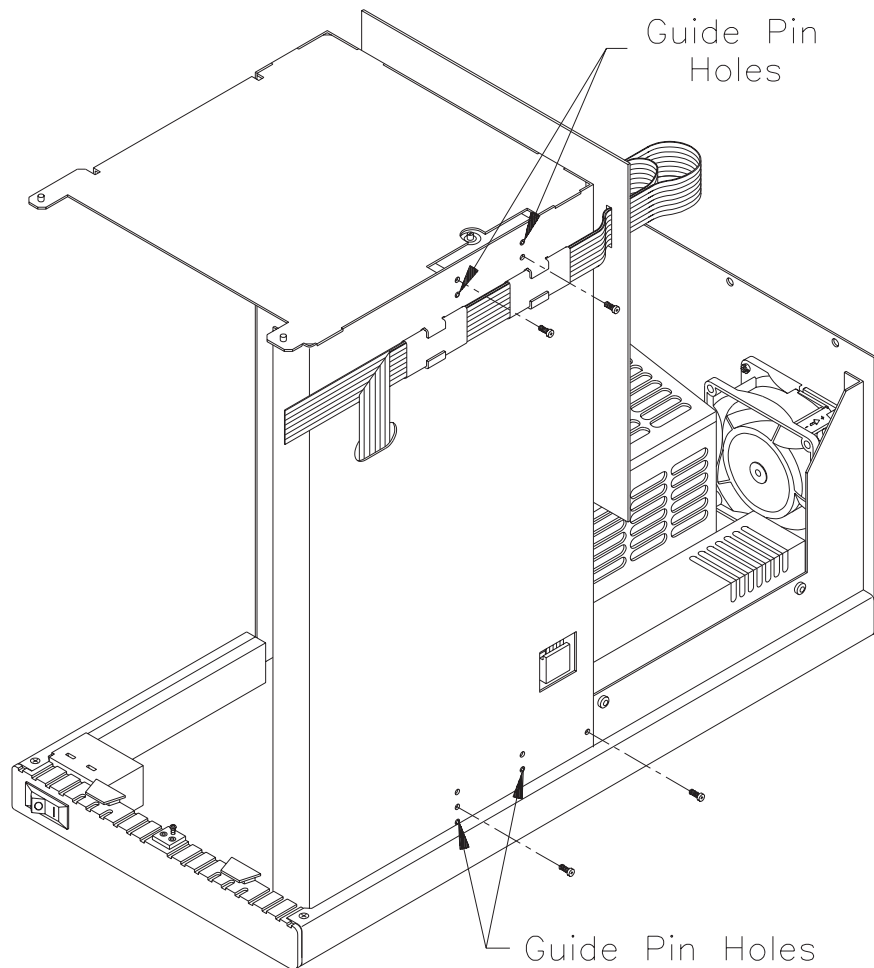

Figure 11-2 CHM screws and guide pin holes
7. While holding the CHM steady with one hand, use a T-10 TORX driver bit with your other hand to remove the four screws that hold the CHM in place. These screws are located on the outside of the chassis, as shown in Figure 11-2.
- a. Pull the CHM away from the four guide pin holes on the side of the chassis. Two guide pins are located on the upper mount of the CHM and two guide pins are located on the lower mount, as shown in Figure 11-2.
6. Align the guide pins on the CHM (two on the upper mount; two on the lower mount) with the mounting holes on the side of the chassis. Insert the four guide pins in the mounting holes. The guide pin holes are shown in Figure 11-2.
7. Use a T-10 bit to replace each of the four screws (#4-40 × 0.25 crestcup machine screws). Tighten each screw to 3.0 inch-pounds of torque (3.5 kg-cm). See Figure 11-2 for the location of the screw holes.